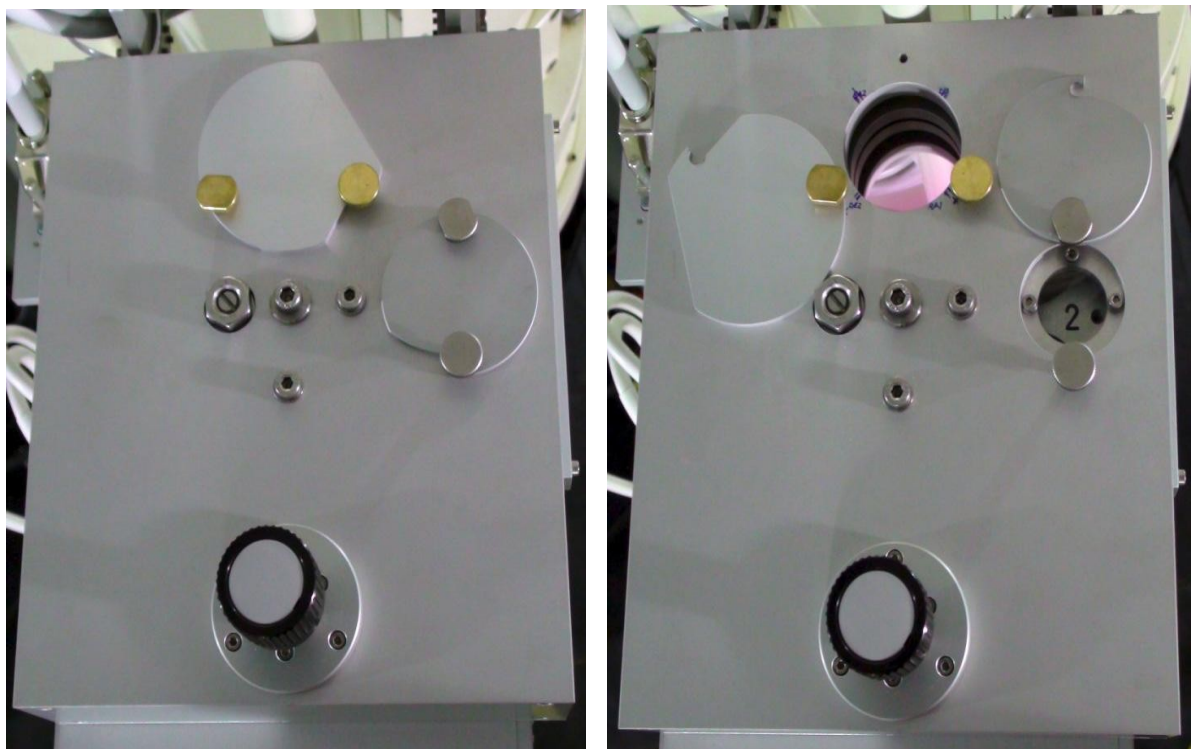

Figure 12: Front side of Master- or Slave-unit
**Important notice:** don't touch or unscrew the fastener screw (round head with two flat sides). First turn the knob (round head) one revolution in anti-clockwise direction (not turning further). Then rotate the cover plate very carefully by hand in anti-clockwise direction until the window opening is fully uncovered. After opening this small cover plate, the user can read through the window what the current filter number is. When choosing another filter, the user can rotate the black knob (clockwise or anti-clockwise), which rotate the filter-wheel until the correct filter number is in sight. Then the correct filter is placed. After the correct filter is placed, close this small cover plate. See figure 12 for the front side of the Master- or Slave-unit.